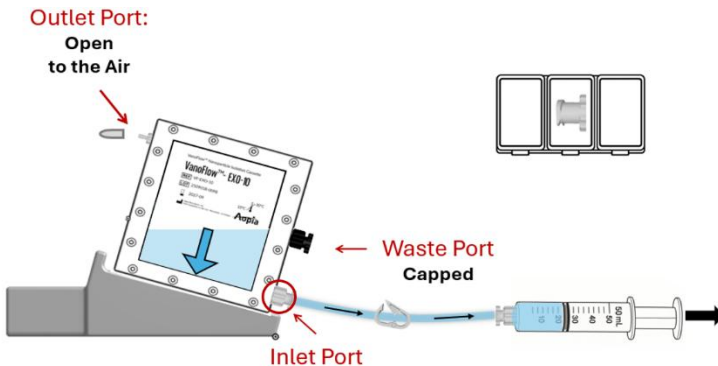

Figure 5 - Storage buffer removal
- Remove the silicone cap from the cassette while keeping the Waste Port capped. Connect a syringe to the Inlet Port and draw the cassette storage buffer from the cassette, as shown in Figure 5.